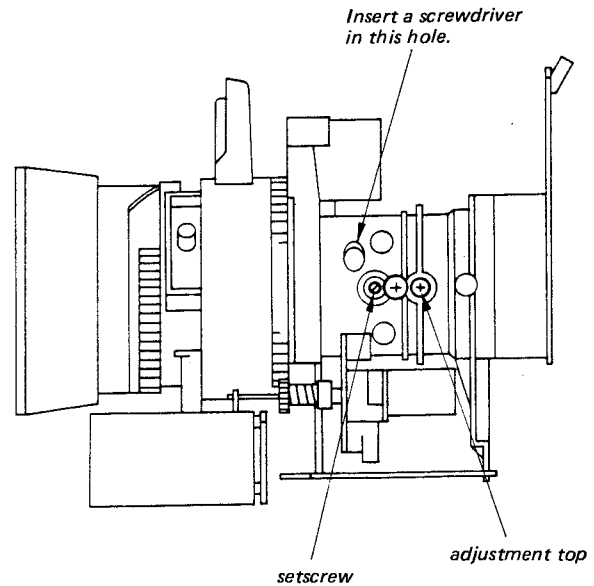

Fig. 1-8
- 7) Loosen the setscrew. (See Fig. 1-8.)
- 11) Confirm that the stopper rubber " ∞ " side is in between the side lines. (When it is out of the side lines, repeat items 8) and 9).)
- 12) Screw in the setscrew with pressing the adjustment top not to move. (When it moves, repeat items from the item 6).)
- 13) Confirm with repeat items 10) and 11).